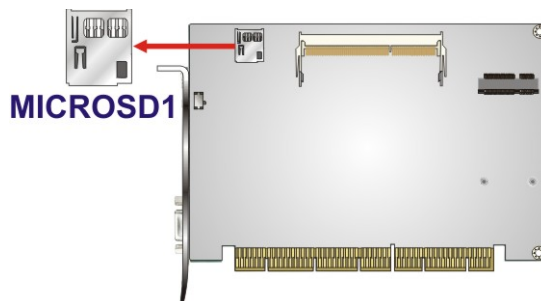

Figure 3-16: microSD Card Slot Location
- CN Location:** See **Figure 3-16**